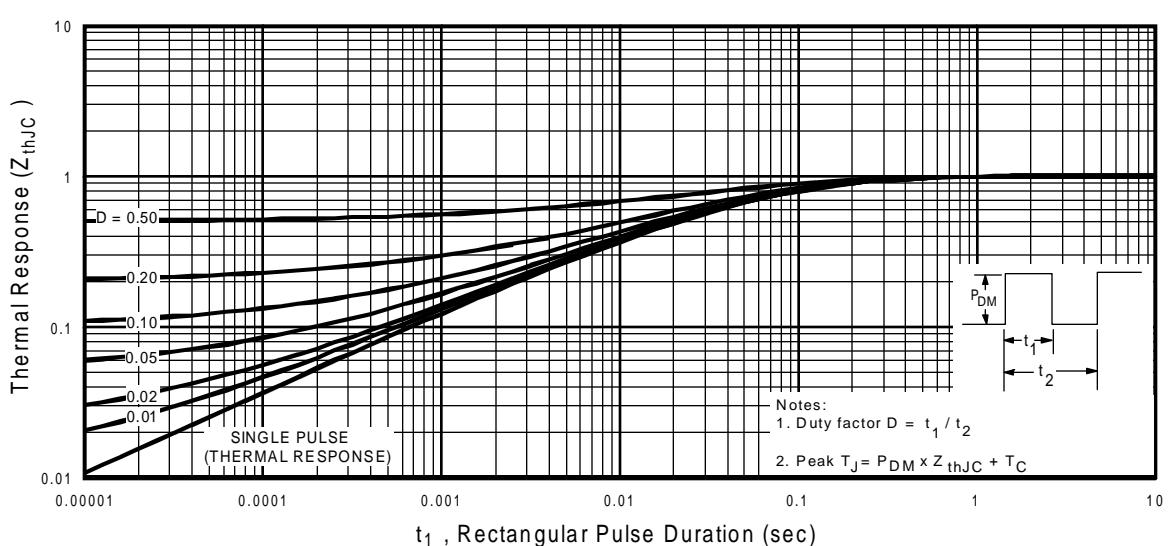

Fig 11. Maximum Effective Transient Thermal Impedance, Junction-to-Case
① Repetitive rating; pulse width limited by max. junction temperature. (See fig. 11)
④ Pulse width $\leq 300\mu\text{s}$; duty cycle $\leq 2\%$.
② $V_{\text{DD}} = 25\text{V}$, starting $T_J = 25^\circ\text{C}$, $L = 1.4\text{mH}$